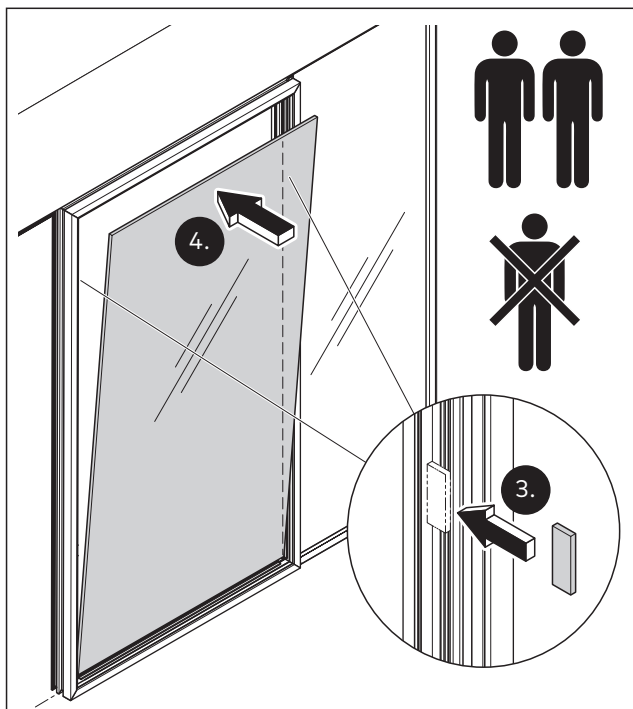

Fig. 34 Align the glass vertically
3. Prepare the vertical wooden blocks to maintain the corresponding vertical clearance(Fig. 34).